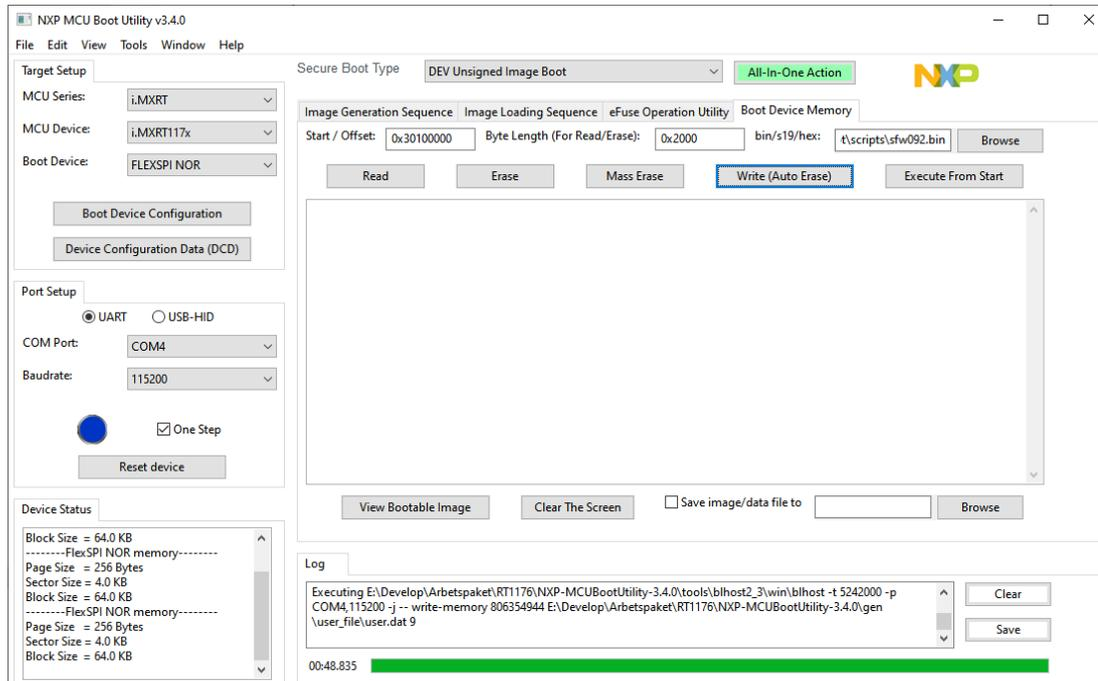

Figure 6 - MCU Boot Utility
2. Start the application and make sure i.MXRT117x is selected as MCU Device and FLEXSPI NOR as Boot Device. See top left part of Figure 6.
3. Chose UART as interface towards the board and select the COM port connected to the board (in this example COM4 is used with baudrate 115200). Click the Connect button. See bottom left part of Figure 6.